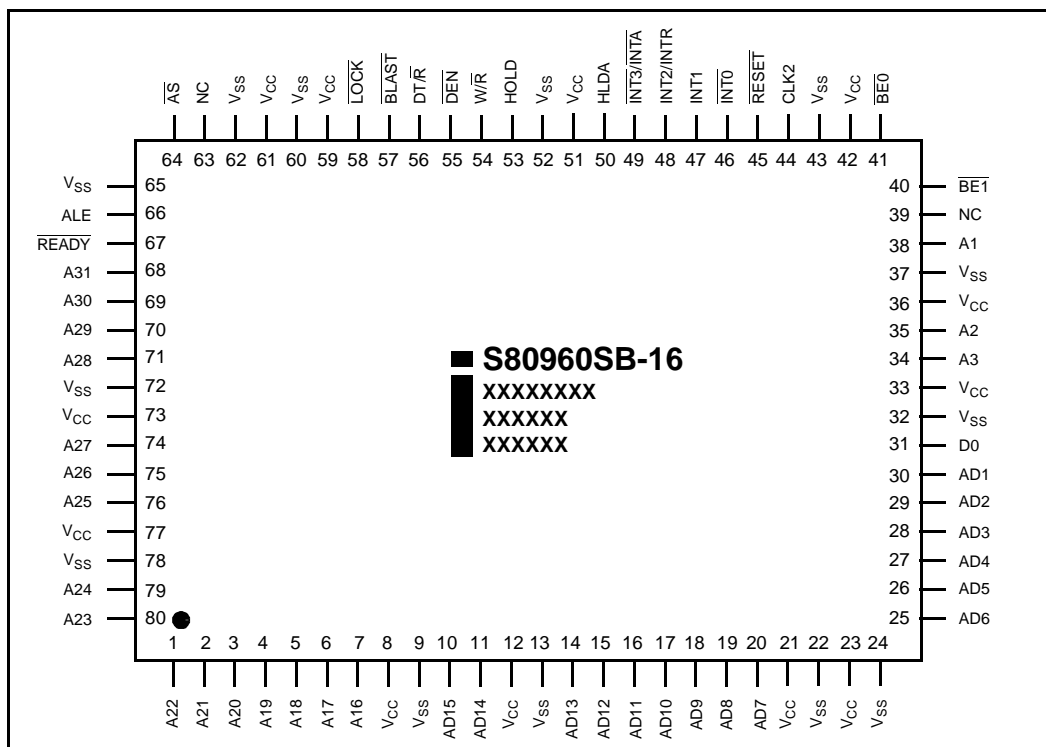

Figure 15. 80-Lead EIAJ Quad Flat Pack (QFP) Package
- 80-lead quad flat pack (EIAJ QFP). Shown in Figure 15.